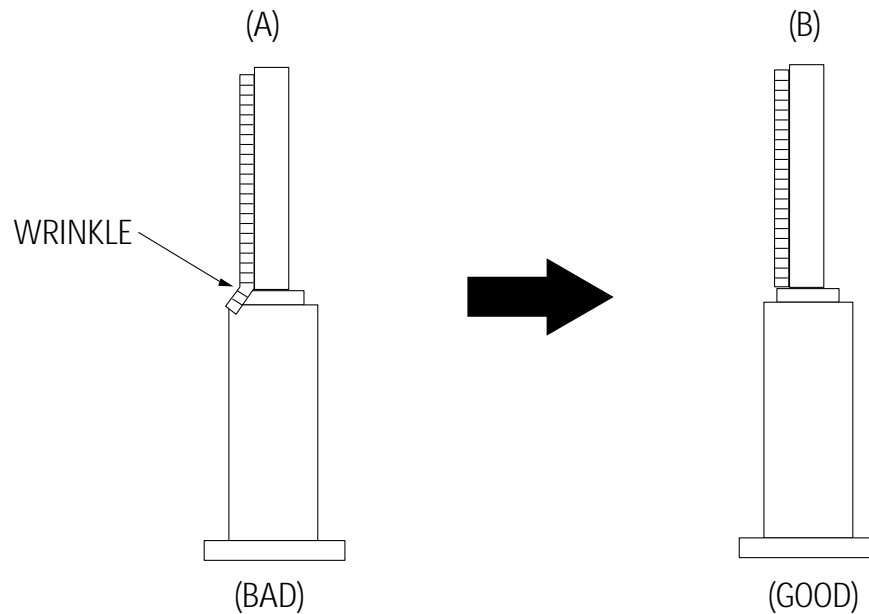

Fig. 2-12 Tape Guide Check
- 2) Confirm that there is no curl or wrinkle at the lower flange of tape guide as shown in Fig. 2-12 (B).
- 3) If a curl or wrinkle of the tape occurs, slightly turn the screw (A) tilt adjust on the ACE head ass'y.